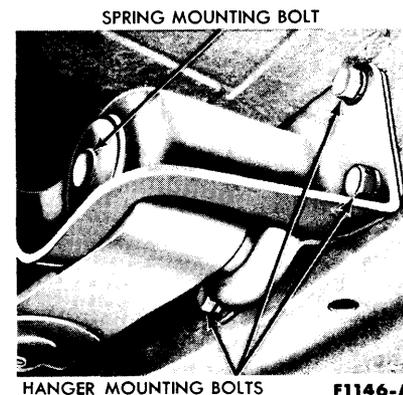

FIG. 11—Rear Spring Front Hanger Installation
6. Remove the spring front hanger-to-underbody mounting bolts (Fig. 11).
2. Position the spring and front hanger assembly to the underbody, and install the hanger mounting bolts (Fig. 11). Do not tighten the bolts at this time.